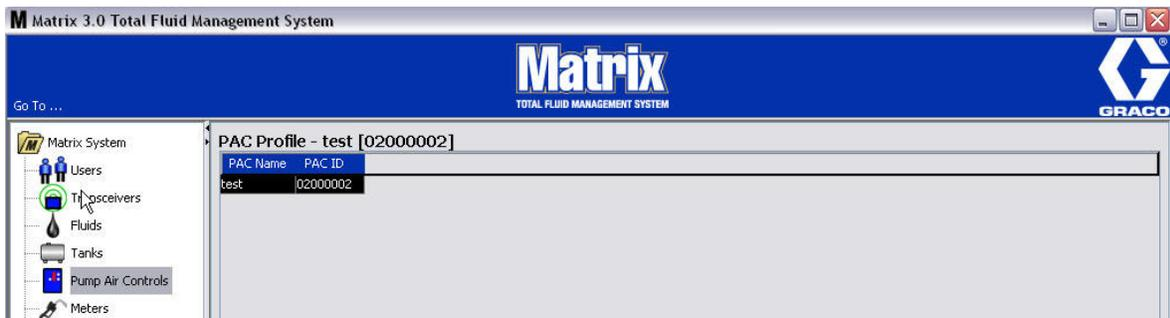

FIG. 83
6. The Linked PAC appears on the main screen as shown in FIG. 83.